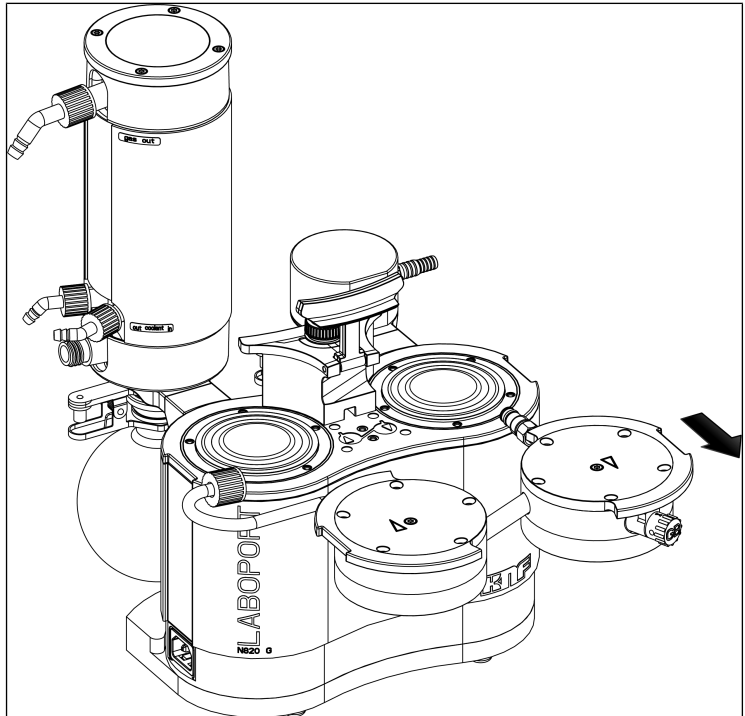

Fig.13: Remove pump heads
- Carefully remove the pump heads to the side (see Fig. 13).